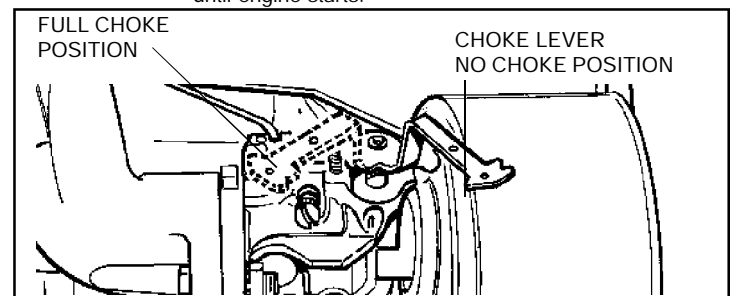

Figure 3
- A. Move choke lever (see Figure 3 or 4) to "FULL CHOKE POSITION".
- Move choke lever (see Figure 3 or 4) to "FULL CHOKE POSITION".